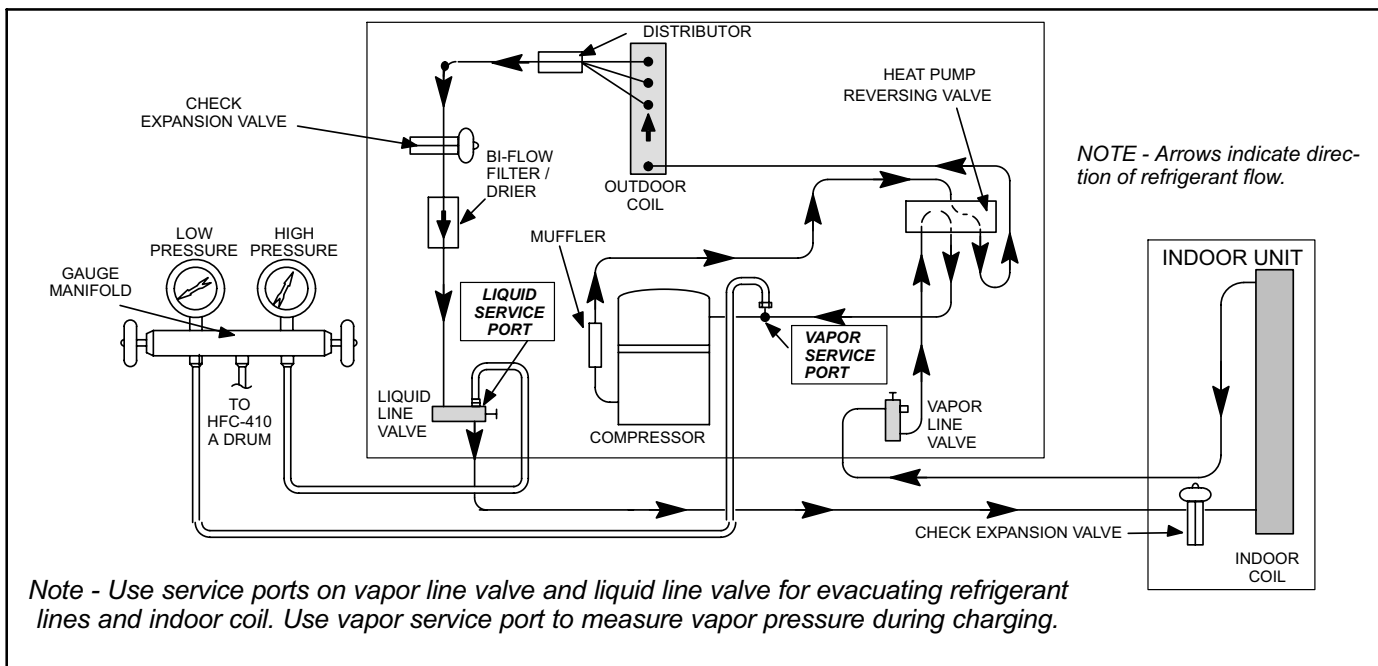

Figure 1
- 2.. Connect the manifold gauge set to the unit's service ports as illustrated in figure 1.